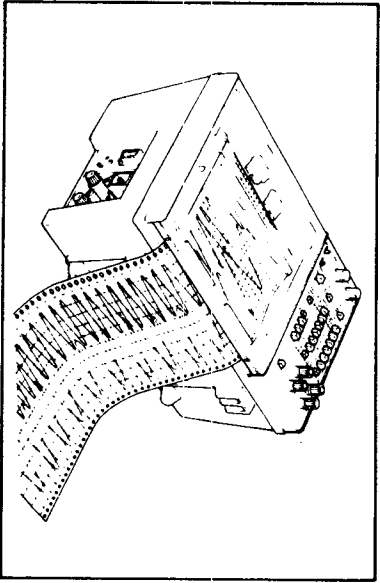

Figure 3-10
(8) Pull the end of the chart out of the lower slit as shown in Figure 3-10, shut the dustproof cover, then the instrument can be used horizontally.